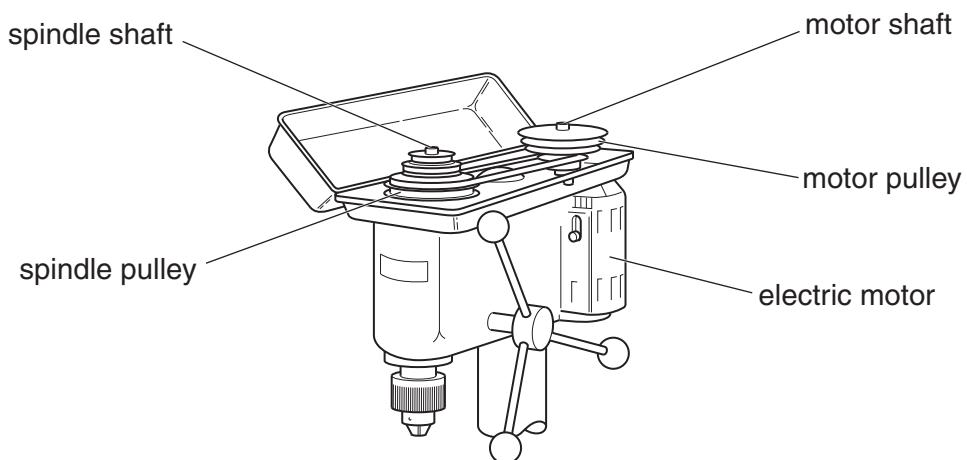

Fig. 2
- 3 Fig. 2 shows a belt and pulley drive system on a drilling machine.
- (ii) Describe how the drilling machine shown in Fig. 2 would be set to its fastest speed.
- (b) The spindle pulley shown in Fig. 2 is made from aluminium alloy and needs to be a sliding fit on the spindle shaft.